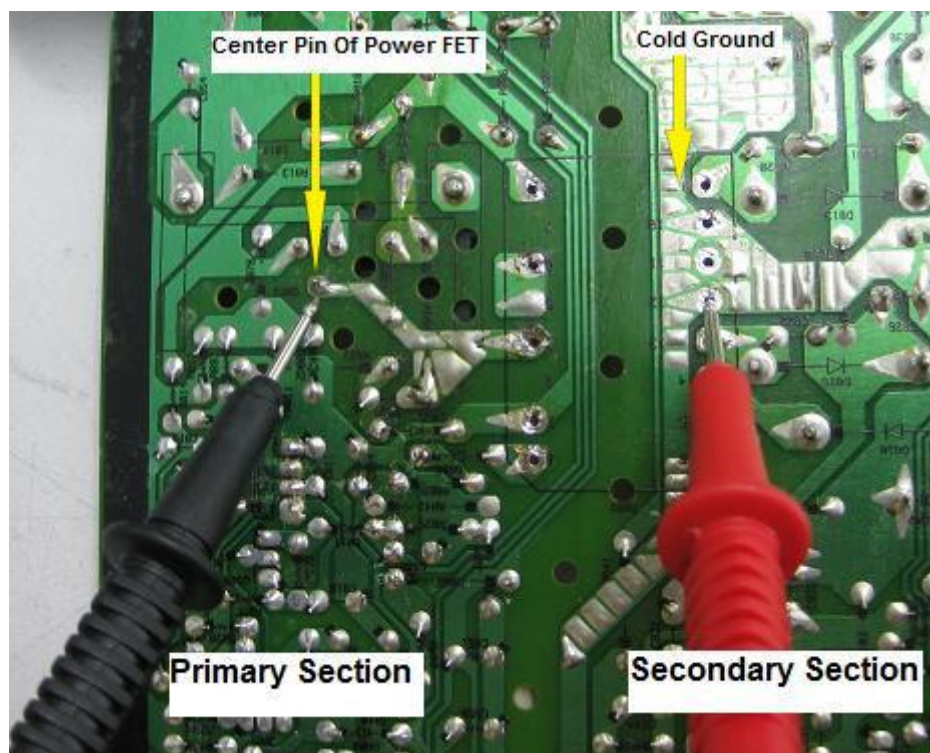

Figure 14.5- The Right Way To Place The Test Probes
- 3 Place the red probe to cold ground and the black probe to the point where the line is connected to the DRAIN pin (usually is the middle pin) of power FET (refer to figure 14.5). For those SMPS that do not have power FET, you can place the black probe to the drain pin of the power IC. You can find out the power IC drain pin from datasheet downloaded from the Internet. Sometimes the word "Drain" is written on the power circuit board.
- 4 Switch On the power and check to see if the needle/pointer of the analogue meter would flick or not (refer to figure 14.5).